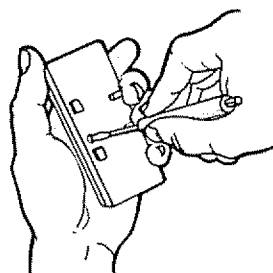
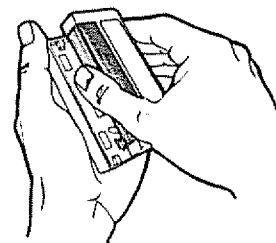

Figure 1
Figure 2
**PROCEDURE:** With visor clip off, remove screw in the original and new transmitter(s) as illustrated in Figure 1. Carefully turn cases over (push button sides up). Remove case tops as shown in Figure 2. **CAUTION: Be careful not to move circuit board components.**